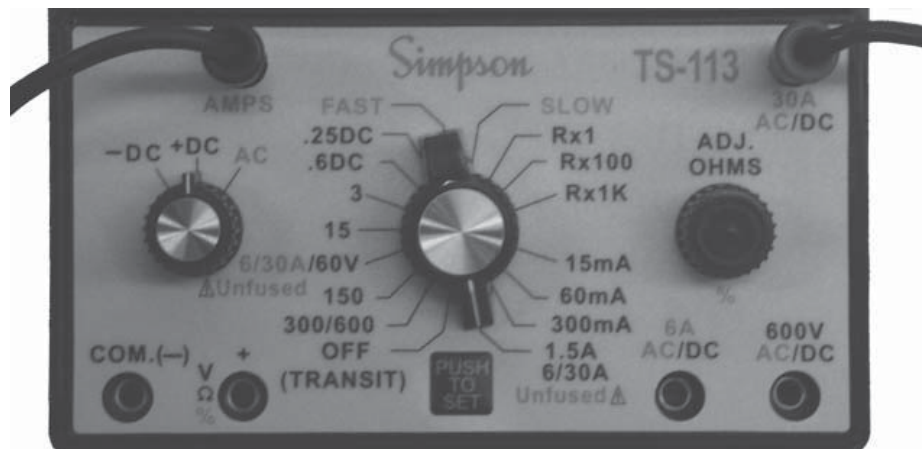

Figure 3. Measuring DC Current
- Set the range selector switch to one of the 4 positions shown in Fig. 3. If in doubt as to range to be used, first select the highest available range.